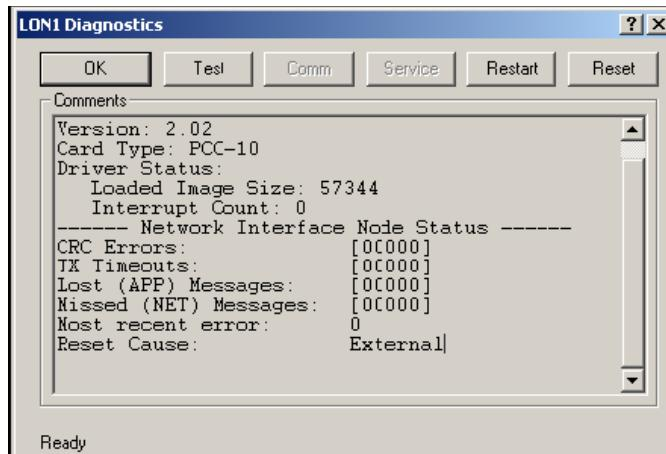
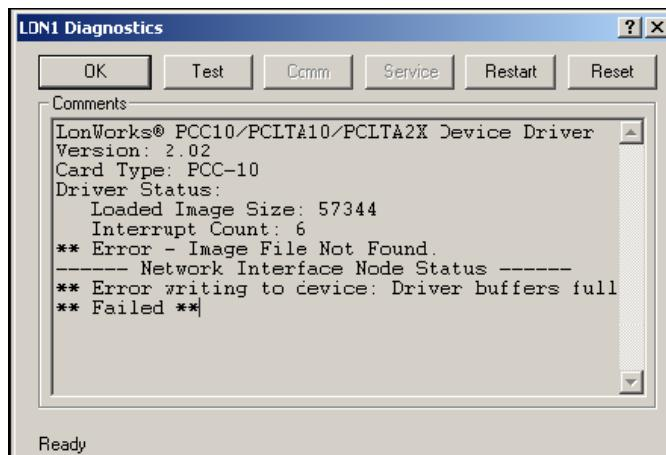

Figure 16: Diagnostics Dialog Box — Test with No Errors
Figure 17: Diagnostics Dialog Box — Failed Test
10. Click **Test**. The status and error count from the PCLTA-21PCI and PCC-10 card appears (Figure 16 and Figure 17).
Note: If there is a problem with the network interface, ****Failed**** appears in the Diagnostics dialog box (Figure 17). Refer to the network interface user's guide to troubleshoot the error.
If the network interface test has no errors (Figure 16), click **OK** to exit. Then click **OK** in the LONWORKS Plug'n Play dialog box.